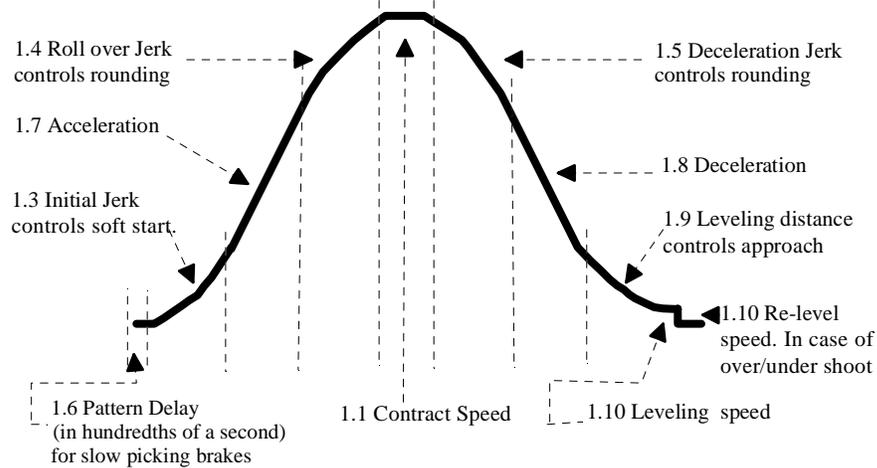

FIGURE I.4.1
The speed profile drawing, Figure I.4.1 below, provides information, at a glance, of the parameters involved for the adjustment of the elevator ride. Please use as reference.
I.4.2. Make a series of test runs: up one floor, then down one floor; then a multiple floor run up, then down. At every run adjust, as necessary, any of the speed curve parameters depicted on figure I.4.1 above. Refer to SDI's manual drawing "SDI SUBMENU 1", at end of SDI manual, for quick reference about "navigating" through program variables, submenu 1. If car vibrates, check encoder mounting and wiring, if correct, reduce Bandwith, Function #40 and/or Stiffness, Function #42 (refer to pages 68 & 69 in the drive manual). As soon as car is able to run at top speed, perform step I.4.3 below, and then repeat this step as necessary.